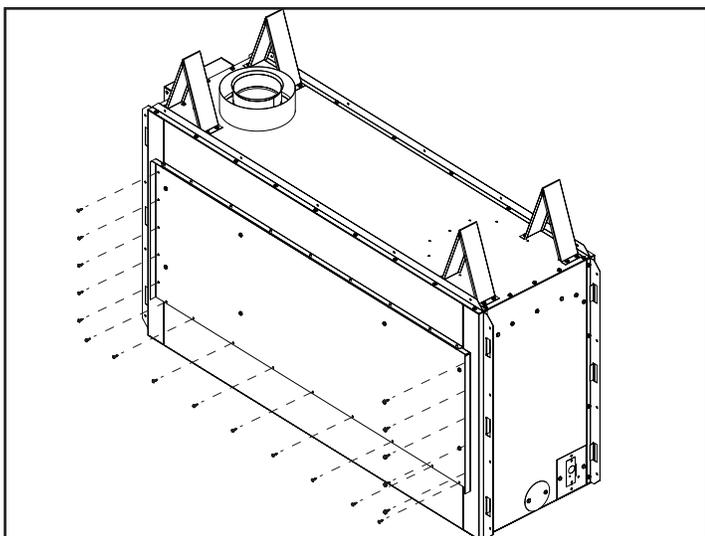

Figure 31 - Installing Rear Panel for Regular Applications
1. Using self-tapping screws provided and holes on rear panel as a guide, screw the rear panel to the fireplace as shown in Figure 31, page 23.